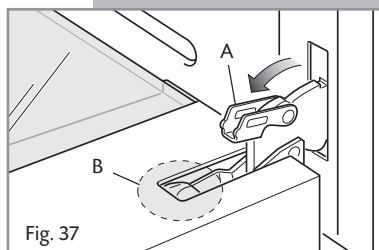
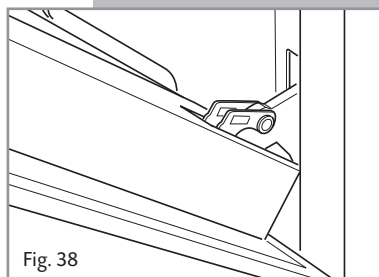

Fig. 37
Fig. 38
- Fully open the lever A on the left and right hinges (Fig 37).
- Gently close the door (Fig. 38) until the left and right hinges are hooked to part B of the door (Fig. 37).
1. Make sure the door is locked open (see fig. 38).